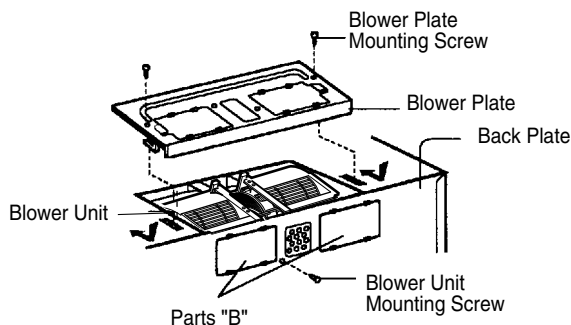

Figure 22
6. Reattach blower plate to microwave oven. Attach with the one blower unit mounting screw and then the one or several blower plate mounting screw(s). See Figure 22.